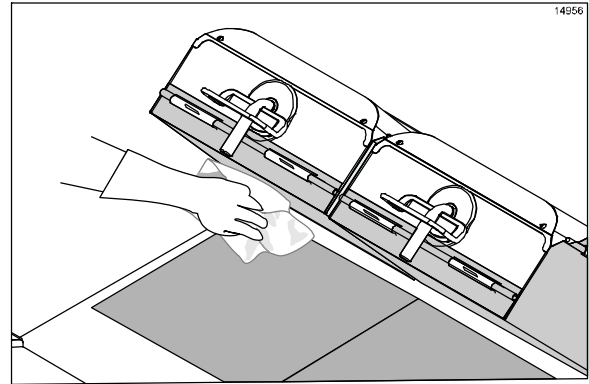

Figure 40
- Wipe the exposed surface of the upper and lower release sheets with a clean, sanitizer-soaked grill cloth. (See Figure 40.)